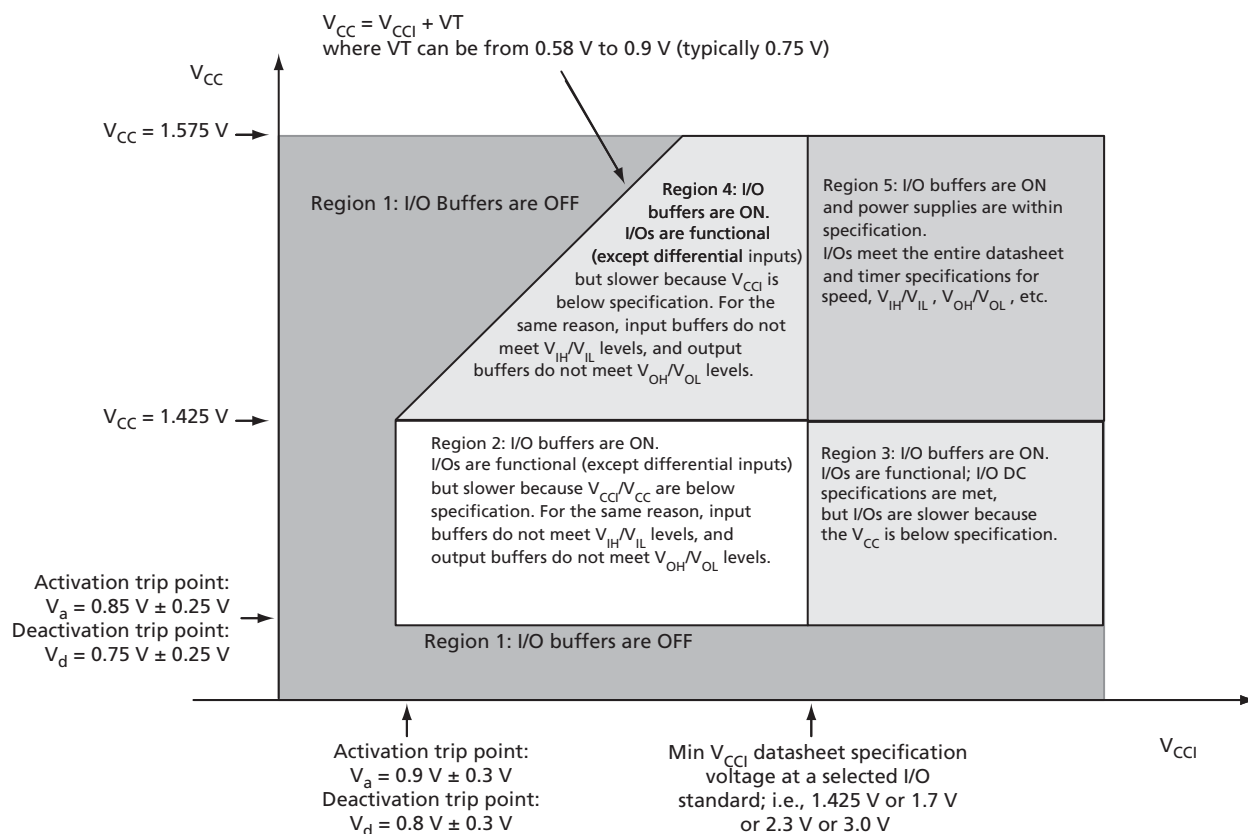
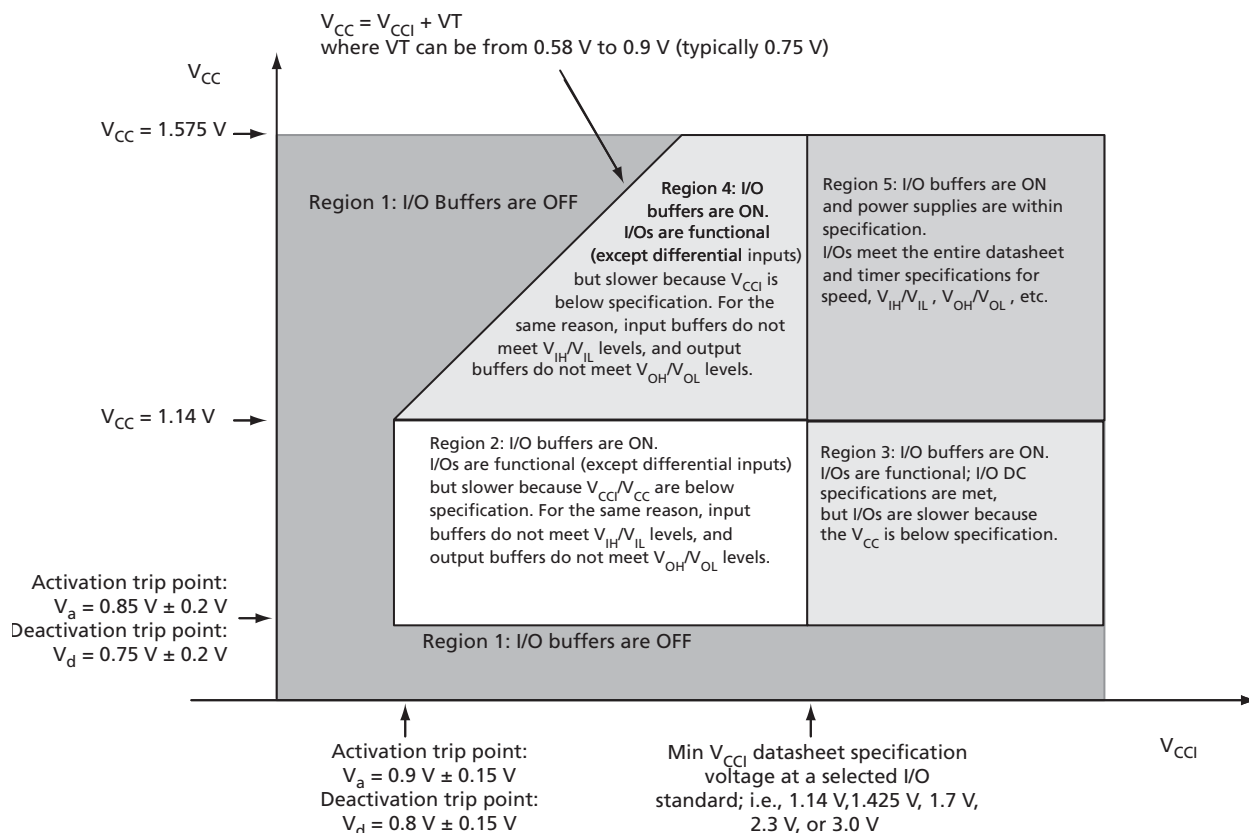

Figure 2-1 • V5 – I/O State as a Function of  $V_{CCI}$  and  $V_{CC}$  Voltage Levels
Figure 2-2 • V2 Devices – I/O State as a Function of  $V_{CCI}$  and  $V_{CC}$  Voltage Levels
Sophisticated power-up management circuitry is designed into every IGLOOe device. These circuits ensure easy transition from the powered-off state to the powered-up state of the device. The many different supplies can power up in any sequence with minimized current spikes or surges. In addition, the I/O will be in a known state through the power-up sequence. The basic principle is shown in Figure 2-1 on page 2-4 and Figure 2-2 on page 2-5.
1.  $V_{CC}$  and  $V_{CCI}$  are above the minimum specified trip points (Figure 2-1 on page 2-4 and Figure 2-2 on page 2-5).
Actel recommends using monotonic power supplies or voltage regulators to ensure proper powerup behavior. Power ramp-up should be monotonic at least until  $V_{CC}$  and  $V_{CCPLX}$  exceed brownout activation levels. The  $V_{CC}$  activation level is specified as 1.1 V worst-case (see Figure 2-1 and Figure 2-2 on page 2-5 for more details).